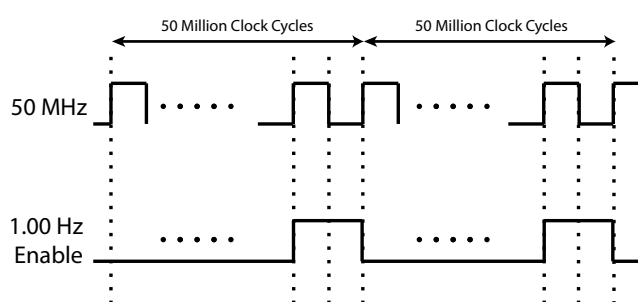

Figure 5.3: Timing of a 1 Hertz enable signal.
Figure 5.3 shows a timing diagram that produces a 1 Hz pulse signal from a 50 MHz clock (the kind used on the DE1-SOC board in the lab rooms). The resulting 1 Hz pulse signal would provide the Enable value for, for example, a counter. A common way to provide the ability to change the number of pulses counted is to parallel load the counter with the appropriate value and count down to zero. For example, if you want to count 50 million clock cycles, load the counter with 50 million - 1 (49,999,999). Then subtract one from it until it reaches 0. After that reload 49,999,999.
2. Simulate the your rate divider using `Simulate -> Timing Diagram`. Make sure you `Reset Simulation` before starting. Demonstrate that the circuit's `DivOut` produces a “clock”, but at a slower rate than the system's clock (e.g., Figure 5.3).
The output of the RateDivider generates a slower alternating signal, which is then used as the enable signal of the DisplayCounter module. Every time RateDivider has counted the appropriate number of clock edges, it generates a high output pulse for one clock cycle. For example, Figure 5.3 shows a timing diagram that produces a 1 Hz pulse signal from a 50 MHz clock (the kind used on the DE1-SOC board). The resulting 1 Hz pulse signal would provide the Enable value for the DisplayCounter module.